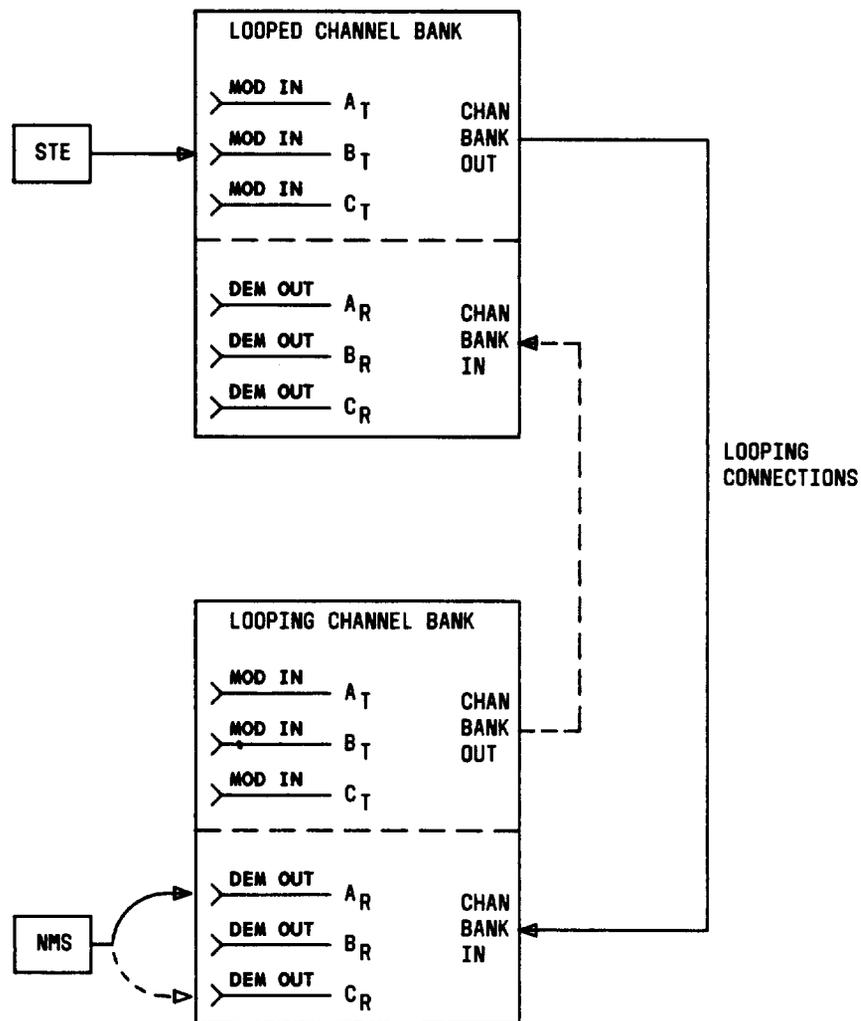

Fig. 21—Channel Bank Under Test Cross-Looped (Frogged) Via Another Bank (Looping Bank)—Typical Connections for Unequal-Level Looping
**Note 1:** See Fig. 21 and ensure that all required looping and test connections are understood before proceeding with this test.